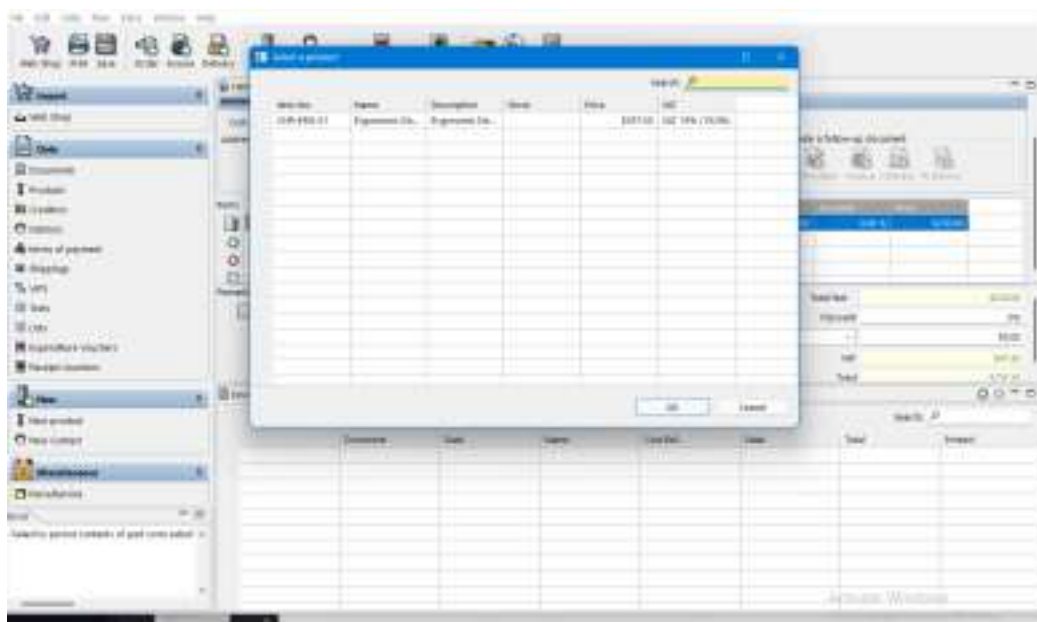

Figure 5. Product selector used to find an exact SKU from the open Order.
3.3. In **Select a product**, search the exact extracted **SKU**. If one exact **Product** appears, select it and click **OK**. If results conflict, stop for manual review. If no exact **SKU** appears, click **Cancel** and use the creation branch below. See Figure 5.